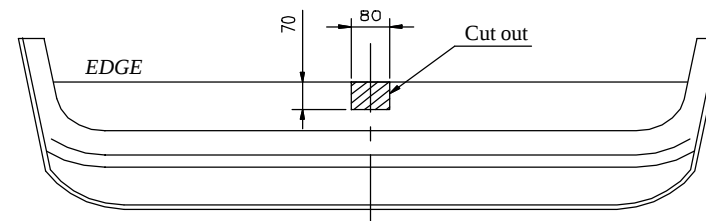

Fig. 2
2. In bottom part of the bumper cut out the hole as show in the fig. 2
4. Put bar of the towbar (pos. 1) into the chassis member and fix with bolts M10x35mm (pos. 6), use big washers $\varnothing 30 \times \varnothing 10.5 \times 2.5 \text{ mm}$ (pos. 9).
5. Put brackets (pos. 4 and 5) to the rear piece and fix it through holes pos. A to the bar of towbar using bolts M8x30mm (pos. 7), use big washers $\varnothing 24 \times \varnothing 8.4 \times 2 \text{ mm}$ (pos. 10).
6. Through holes (pos. B) in brackets (pos. 4 and 5) fix nuts M8 with big washers $\varnothing 24 \times \varnothing 8.4 \times 2 \text{ mm}$. Take care at the torque moment - **10 Nm**.
7. Through holes (pos. C) in brackets (pos. 4 and 5) make holes with drill $\varnothing 9 \text{ mm}$, and next fix with bolts M8x30mm (pos. 7).
8. Fix body of the automat and place tow-ball according to supplied instruction. Note! Remember to place socket plate (pos. 3) as shown on the drawing 1.